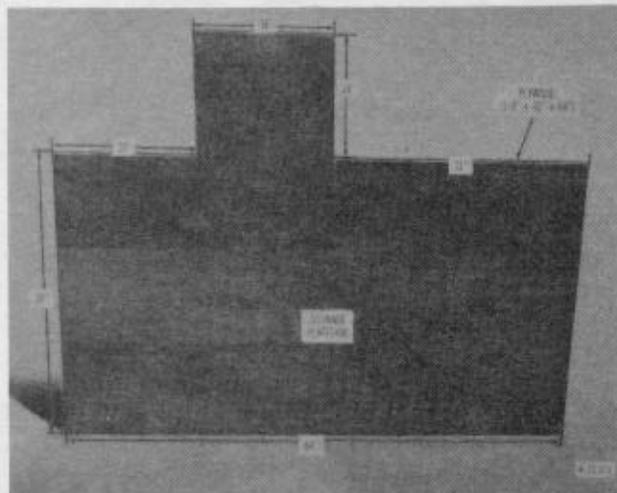

Figure 7-4. Construction details for storage platform.
b. Constructing Stowage Platform. Construct stowage platform from ½- by 48- by 64-inch plywood. Make cutouts from the corners on the 64-inch side as shown in figure 7-4.